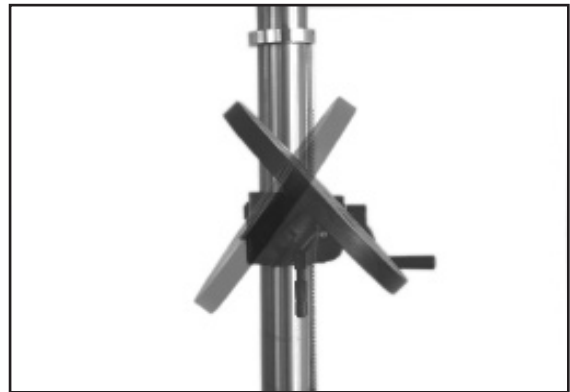

Figure 24
1. Loosen the nut below the table. Fig. 24.